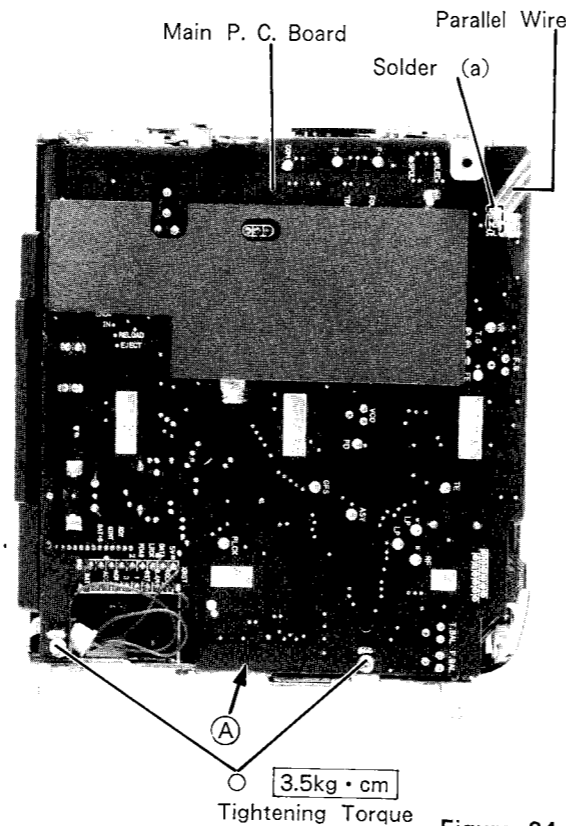

Figure 24
- (1) Unsolder the solder (a) as shown in Figure 24.
- (2) Remove two screws marked "○" as shown in Figure 24.
- (3) Disconnect all connectors from the Main P. C. Board while lifting up the Main P. C. Board A section.